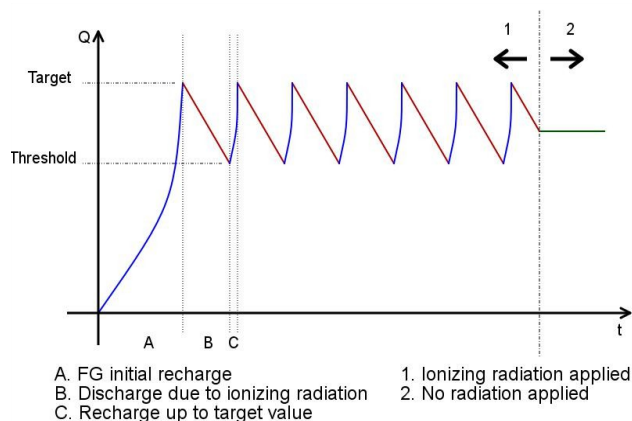

Figure 1. Working principle of **FGDOS®**
**FGDOS®** working principle is based on three basic steps, as shown in Figure 1: